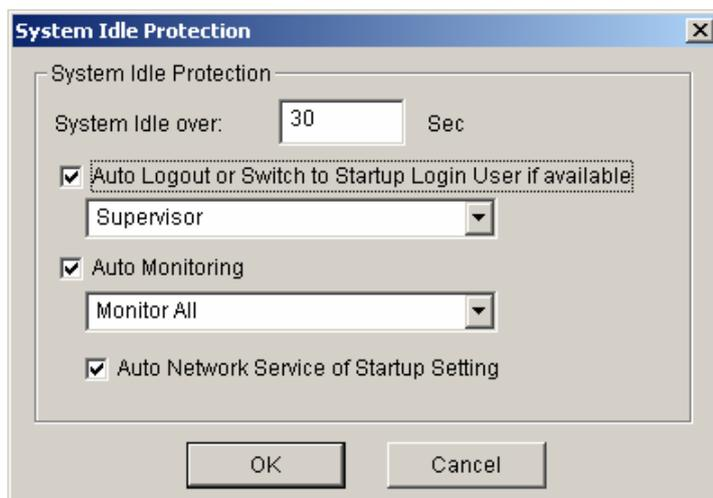

Figure 1-112
4. In the System Idle Protection dialog box (Figure 1-112), select the **Auto Logout or Switch to Startup Login User if available** option, and then select **Supervisor** or **Supervisor, Poweruser** from the drop-down list.
1. In the System Idle Protection dialog box (Figure 1-112), select the **Auto Monitoring** option, and select **Monitoring All**, **Schedule Monitoring** or **I/O Monitoring** from the drop-down list.